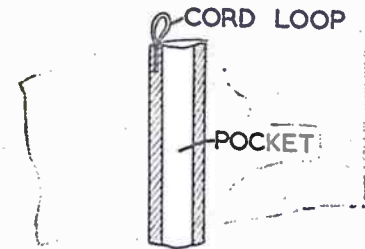
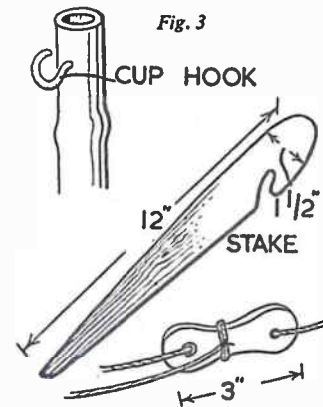

Fig. 1
Fig. 3
The material should be about 54ins. to 60ins. wide and 16ft. long. Five pockets are made as indicated in Figs. 1 and 2 and a cord loop is provided at the top of each pocket. The posts are 6ft. long canes which slip right through the pockets and are pushed into the sand or ground. The loops in the material go over cup hooks, Fig. 3, in the tops of the canes and prevent the material from slipping down. The canes are pushed about 12ins. into the ground and further support is given by small stakes and guy ropes.
Adjustable clews and stakes may be made from wood as shown in Fig. 3. The guys are looped at the ends and are slipped over the tops of the canes, resting on the cup hooks.
The legs (A) are cut to the dimensions given from hardwood, ¾ in. to 1 in. thickness (Fig. 1). That portion of each leg, reduced to 1 in., should have its top side edges rounded off a little (not too much) for comfortable handling. If the tongs are required for lifting wet clothing from the wash boiler, the more usual metal claw jaws may be considered unsuitable, as liable to rust, and also to tear the clothes. Instead, therefore, wooden jaws are substituted. These are simply strips of the hardwood, ¾ in. wide, screwed at the bottom of the legs. Use brass screws and bevel off the strips, as at (A).